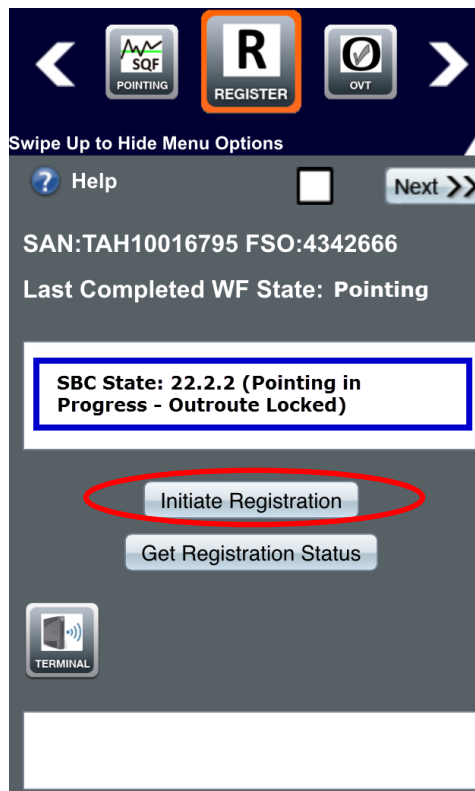

Figure 38: Registration step
The Register step (Figure 38) allows you to perform the modem's registration procedure.
1. Tap **Initiate Registration** (circled in Figure 38).